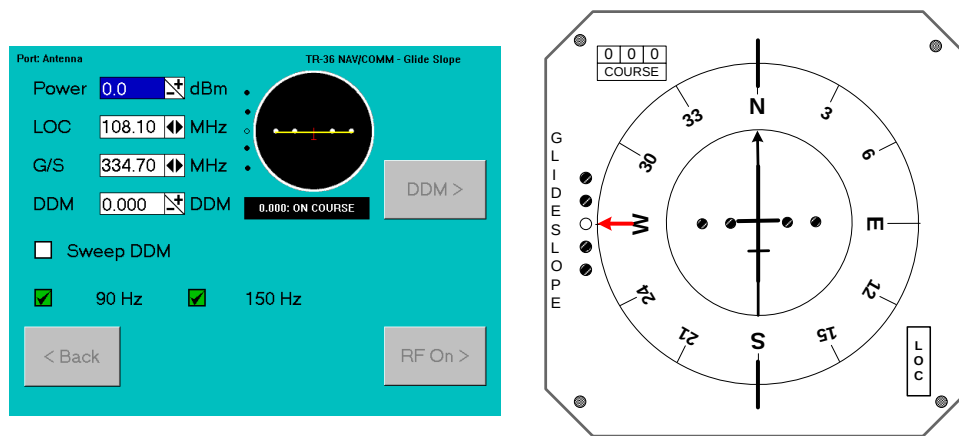

Figure 2-30. Glideslope ON COURSE centered
9. Verify that the aircraft under test matches the same settings as the Test Set and also as shown on the Test Set graphical representation (Figure 2-30).